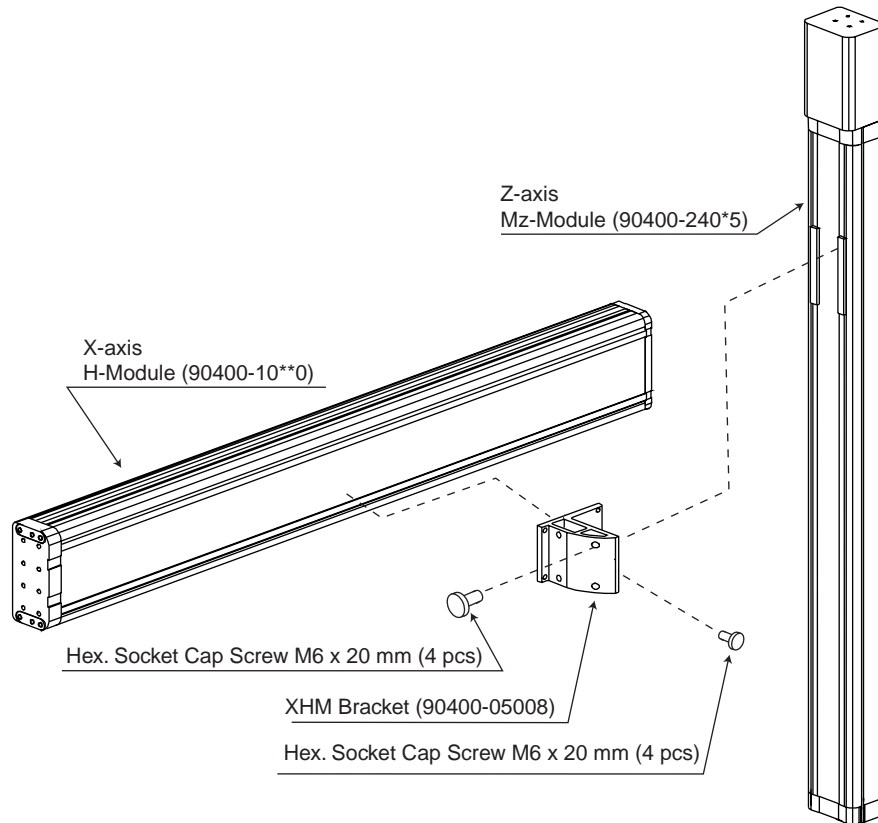

Figure 4-37. Z-2 Type Mechanical Assembly
5. Mount the Z-axis to combining bracket. Install the mounting bolts (see Figure 4-37 and refer to Table 3-3 for mounting bolt specifications).